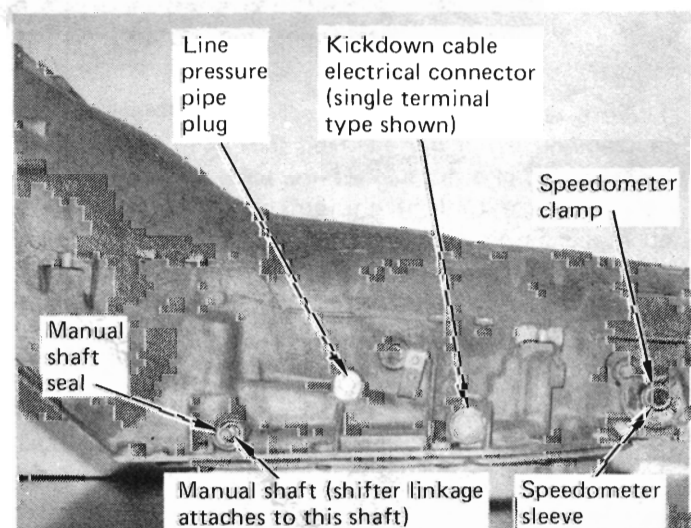

FIGURE 2
STEP 4. Disconnect kickdown cable wire on left side of case. (See Fig. 2) Disconnect shifter linkage. On cable shift models (floor consoles) unbolt cable bracket from pan and leave cable attached to bracket. Disconnect speedometer cable.
STEP 9. Remove speedometer retaining bolt and clamp. (See Fig. 2) Pull speedometer sleeve and driven gear out of transmission. Remove and discard O-ring and inner seal. Do not lose small wire clip for inner seal. Put sleeve and gear in oil pan.
STEP 20. Remove cooler fittings from case. Remove 1/8" NPT pipe plug from left side of case at line pressure tap. (See Fig. 2) The case is now stripped and can be cleaned. The park pawl does not have to be removed. When handling the case, be careful not to damage the valve body surface as this can cause erratic operation.